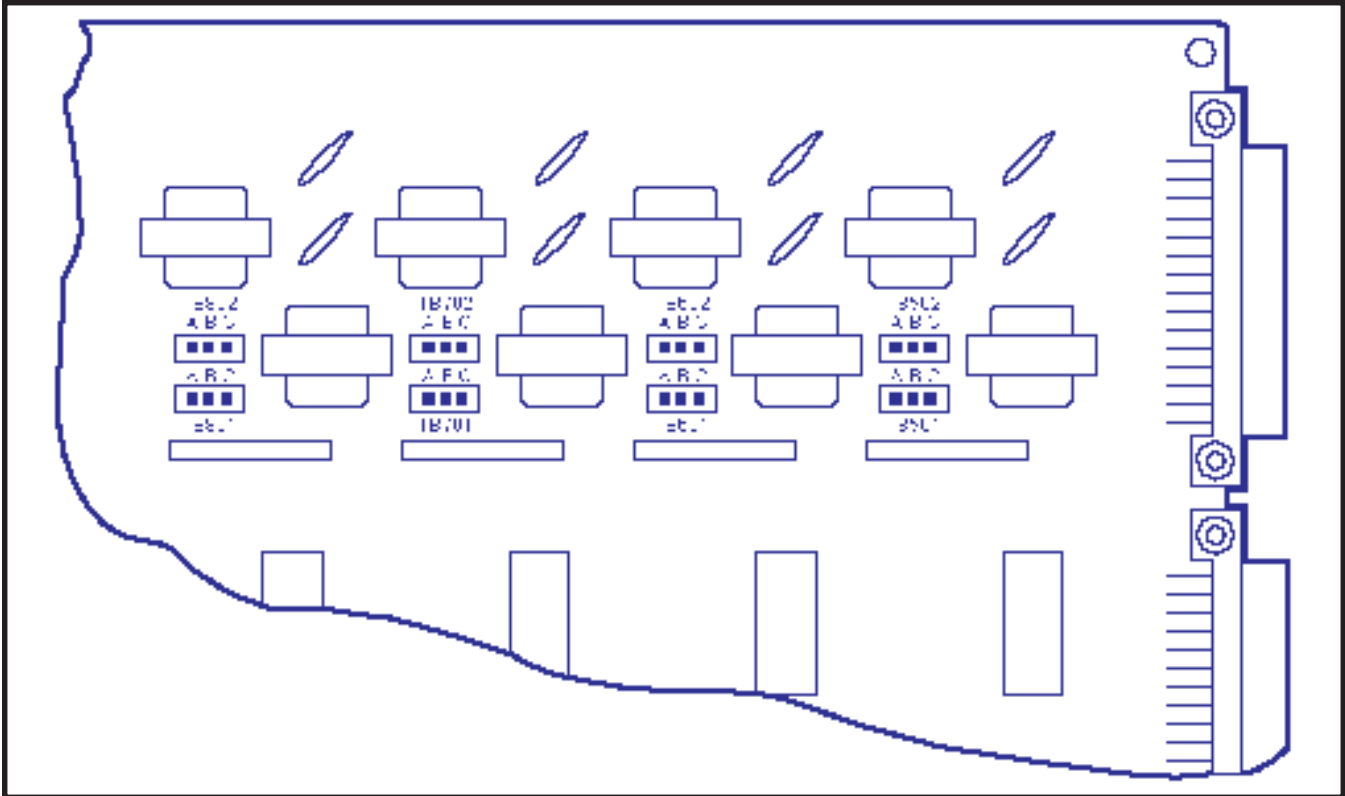

FIGURE 4-22—NMDU STRAPPING
**3.91** The NMDU (Figure 4-22) must be strapped for operation with either a one-pair or two-pair